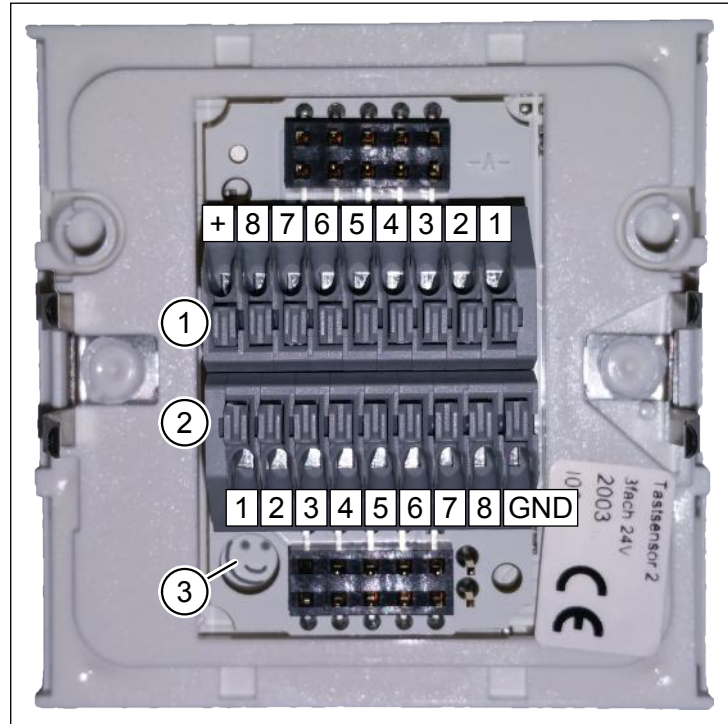
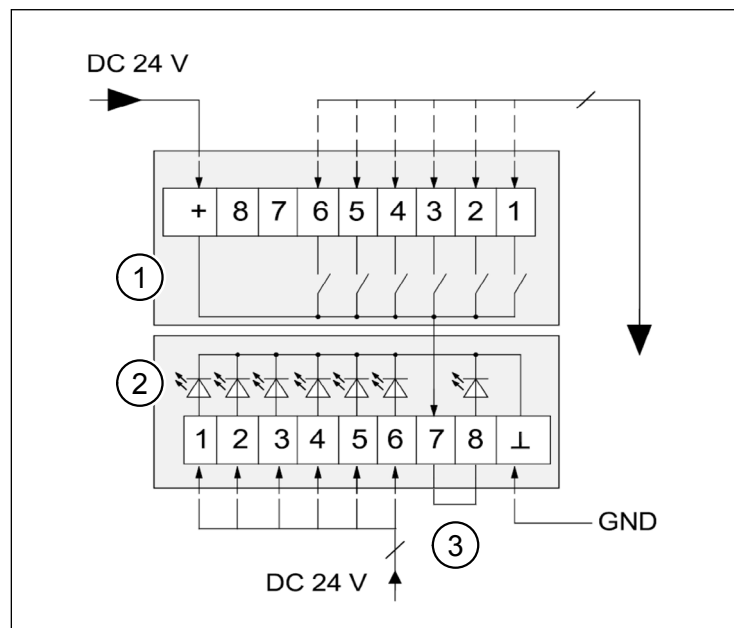

Fig. 3: Back panel with terminal blocks
Fig. 4: InControl pushbutton sensor connection diagram
- ▶ Use the smiley (item 3 in Fig. 3) as an orientation guide. It is only in this position that the connections on the terminal blocks agree with the connections identified in the connection diagram (Fig. 4).
- ▶ The InControl pushbutton sensor has a backlight that can be activated if required. Place a bridge (item 3 in Fig. 4) across terminals 7 and 8 of the terminal block for LEDs to supply 24 V DC to the backlight.